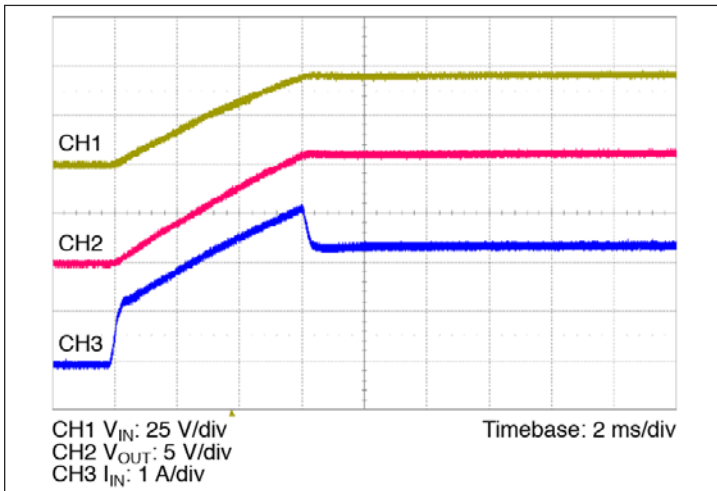

Figure 13 – Start up from application of  $V_{IN}$ ; VC pre-applied  $C_{OUT} = 500 \mu$ F
- Normal Operation (VC applied prior to VIN): In this case the controller is active prior to ramping the input. When the input voltage is applied, the VTM output voltage will track the input (See Figure 13). The inrush current is determined by the input voltage rate of rise and output capacitance. If the VC voltage is removed prior to the input reaching 26 V, the VTM may shut down.